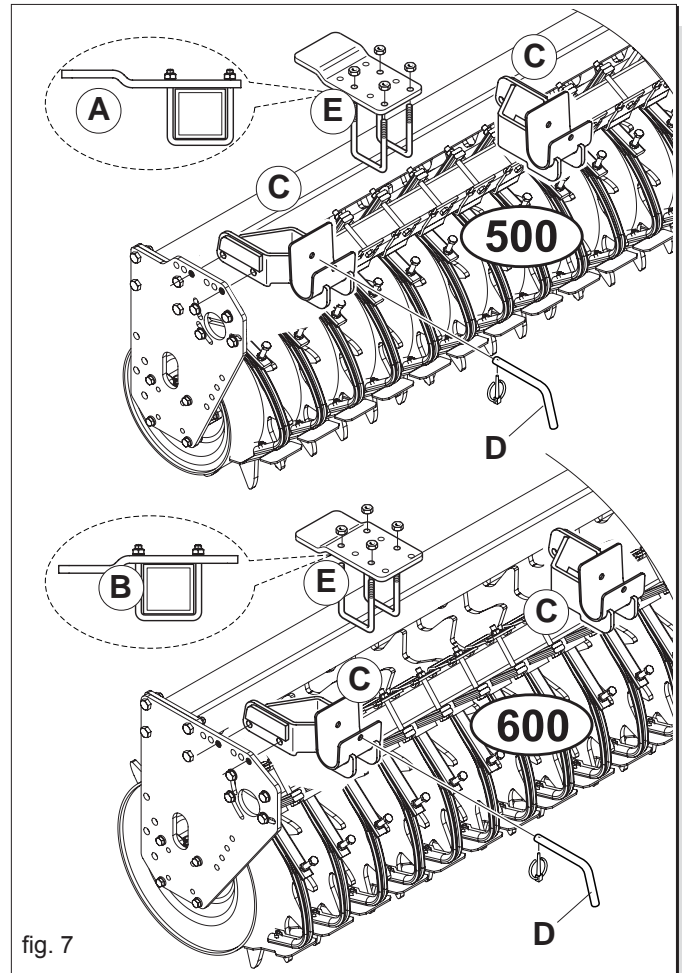

fig. 7
- Assemble the two seeder-supports (C, Fig. 7) on the hind roller side panel of the rotating harrow, as showed in Fig. 7.
- In correspondence of supports (I, Fig. 9), to mount slabs of support (E) like indicated in Figure 7. To make attention the correct assembly of the slab:
- roller Ø 500 = position A (Fig. 7);
- roller Ø 600 = position B (Fig. 7).
- 2) Replace the snap pins and release the safety pins (D, Fig. 7).
- 4) Replacing the safety pins with the suitable locking pins (D, Fig. 7).